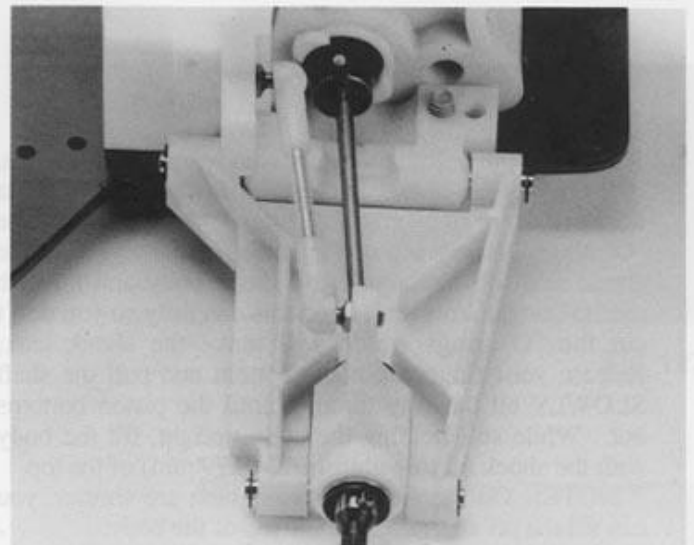

Fig. 116
-116- Put the #6385 strut onto the ball on the bulkhead. Put the spring inside the stub axle, and make sure the spring fits freely in the hole. If the spring binds you may be able to clear the hole with an Allen wrench; or you can reread step 109. Put the dogbone or half-shaft into the gear slot. Now, align the stub axle with the dogbone and slide it in. Put the strut on the ball in the hub carrier. It should look like Fig. 116 now. Do the R.H. side.